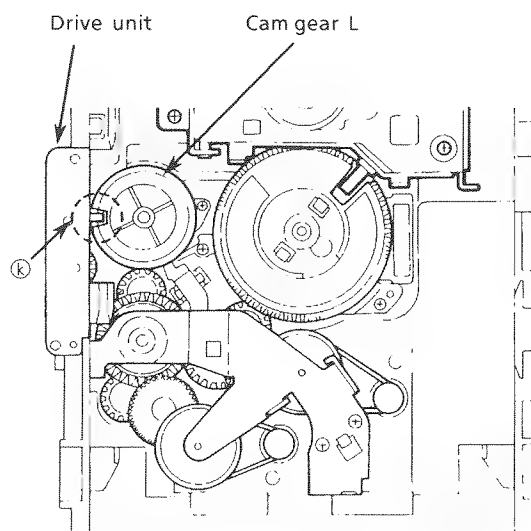

Fig. 41
2. Rotate the Cam gear L so that the drive unit's pole ⑤ is positioned as shown in Fig. 41.